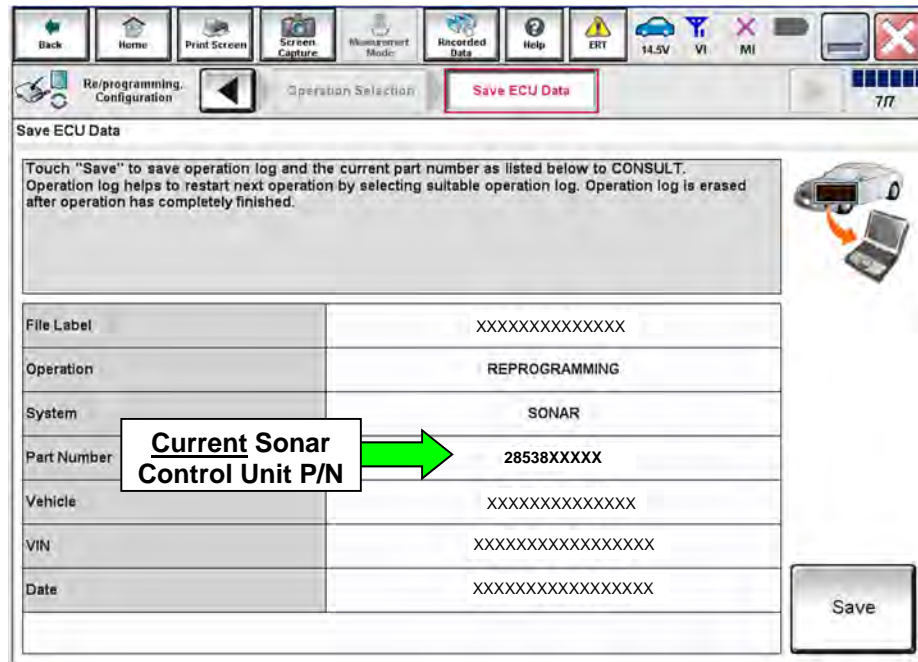

Figure 13
28. When you get to the screen shown in Figure 13, confirm that a reprogram is available as follows.